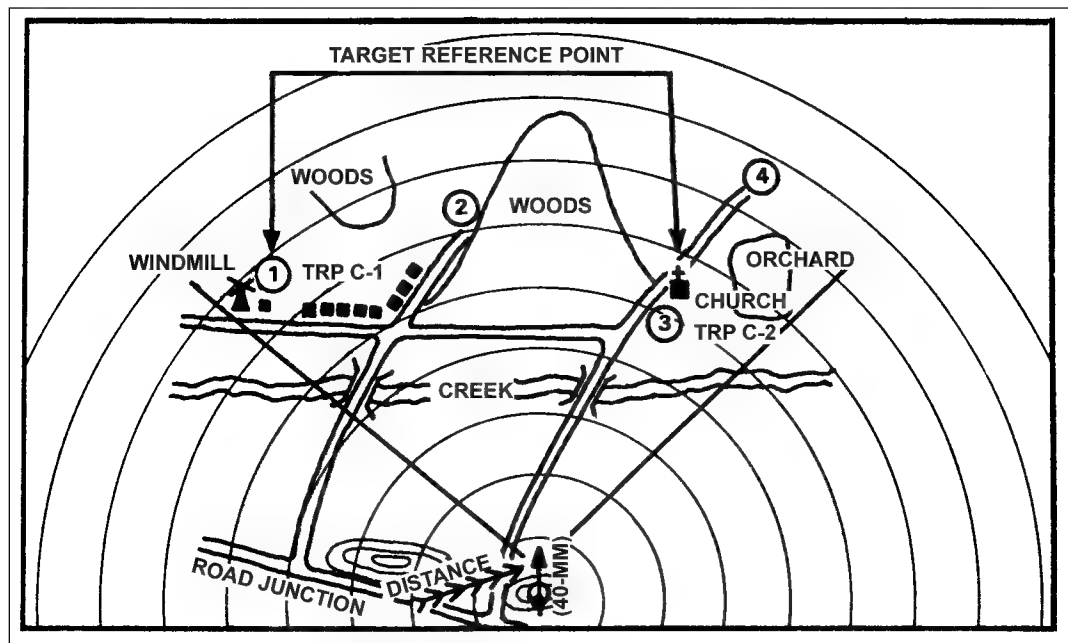

Figure 4-19. Target reference points.
- (f) Number the target reference points (TRPs) and write them on the range card (Figure 4-19).